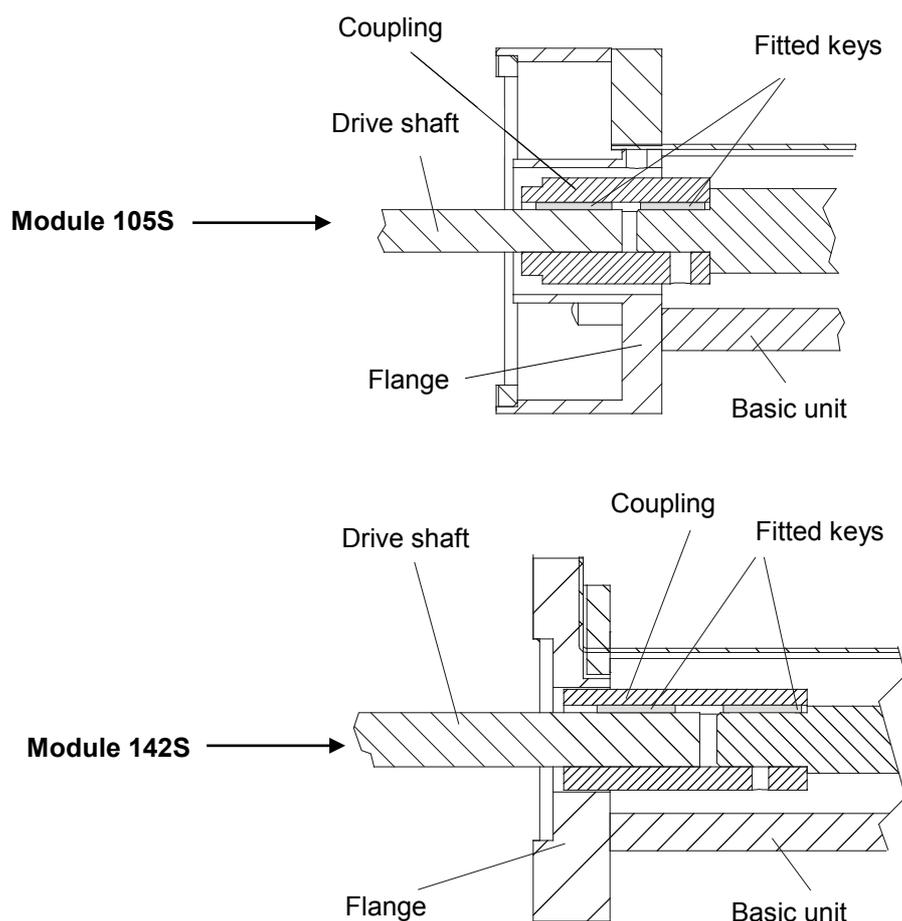
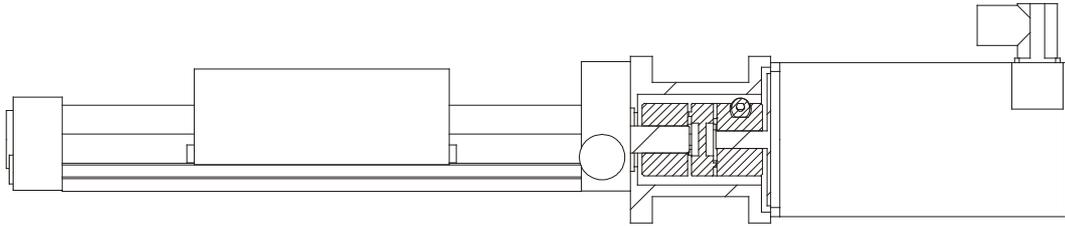

Figure 34: Cut view (coupling), version 1
Figure 35: Cut view (coupling), version 2
- Push carriage towards motor flange; spindle and coupling protrude from the basic body (see *Figure 34, page 35*).
- *Figure 34, page 35* or *Figure 35, page 36*)